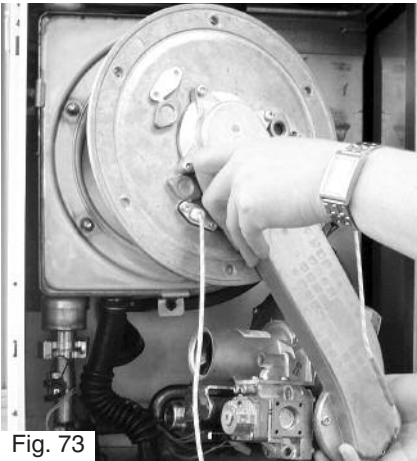

Fig. 73
2. Remove the air gas manifold as in 18.2.1 (Fig. 73);